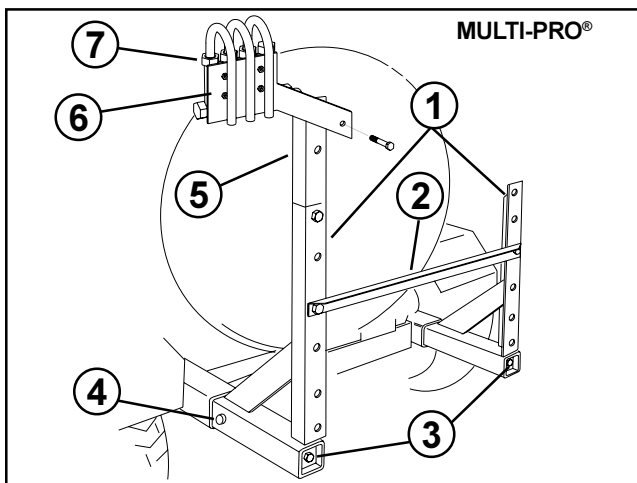

FIG. 2
2. Assemble Flow Monitor and Flow Monitor Backing Plate onto the Flow Monitor Mount using (4) 1/4" x 2" hex hd. cap screws and lock nuts. FIG. 2.
3. Assemble the Cross Support Angle, Flow Monitor Mount and Flow Monitor Mount Extender Bracket onto the Boom Mount Assemblies with (3) 1/2" x 1-1/4 hex hd. cap screws and lock nuts as per FIG. 2.
4. Using a torque wrench, tighten the (2) 1/2" x 18" screws that join the Wedge Tubes to the Boom Mounts. Tighten to 50 ft. lbs.